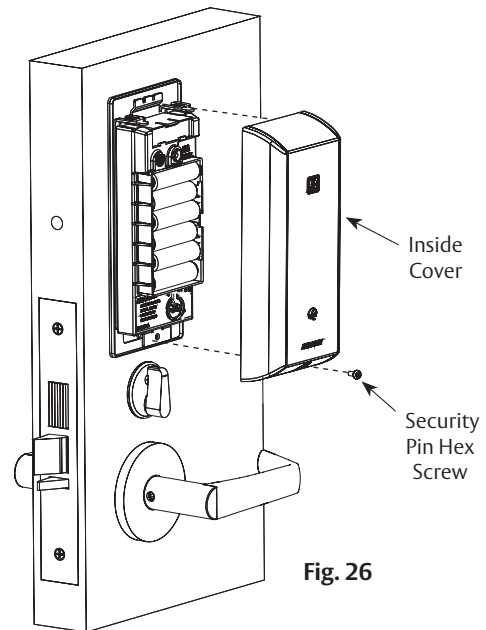

Fig. 26
15. Install inside cover. (Figure 26)